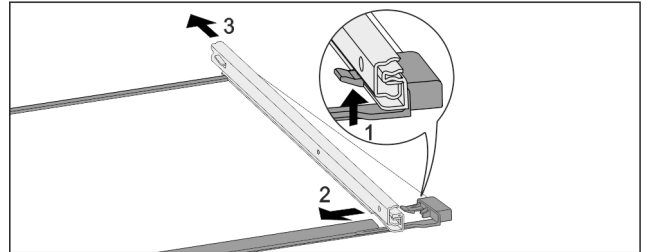

Fig. 81 Glass shelf with rails
- ▶ Push up front click-in hooks. Fig. 81 (1)
- ▶ Move the pull-out rails to the side Fig. 81 (2) and to the rear Fig. 81 (3).